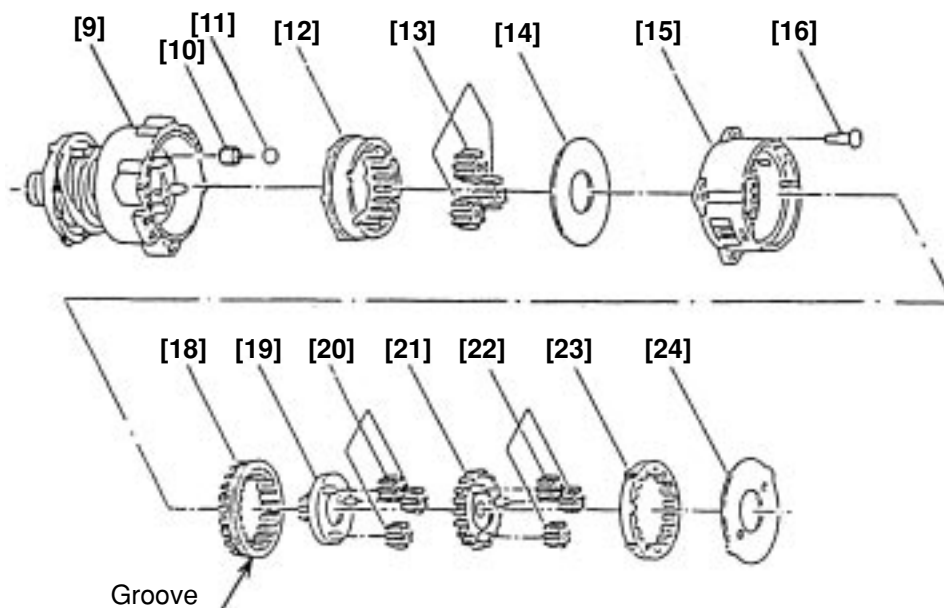

Fig. 9
(b) Install the parts series from the six Rollers [10] to Washer (B) [24] into the assembly reassembled in step (2). (See Fig. 9.)